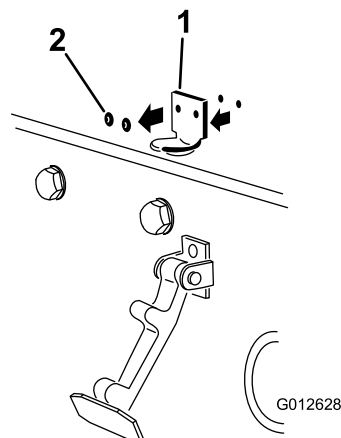

Figure 3
2. Remove the (2) rivets securing the hood-latch bracket to the hood (Figure 3). Remove the hood-latch bracket from the hood.